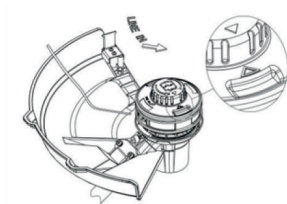

Fig. 12A
1. Align the arrow on the bump knob with the one on the spool cartridge. (Fig.12A)
2. Insert the cutting line into the eyelet that marked “LINE IN” of the spool. (Fig.12A)